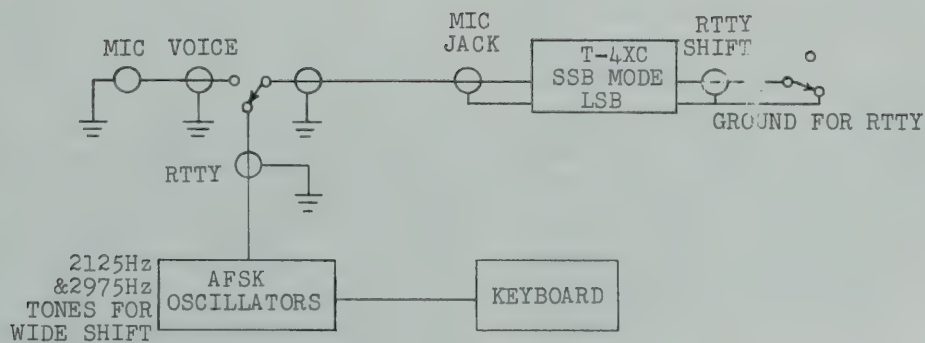

Figure 3-4. AFSK Circuit
- b. Refer to figure 3-4. The second method of generating a RTTY signal employs the use of audio oscillators to generate AFSK. When the audio tones are fed through an SSB transmitter, a simulated FSK signal results. The T-4XC may be used in this mode if regulations permit; however, the carrier oscillator frequency must be shifted approximately 500 Hz farther away from the center of the filter passband. This shift alters the frequency response of the transmitter so that the commonly used 2975 Hz tone frequency falls within the passband of the SSB crystal filter, and also increases unwanted sideband rejection and carrier rejection.